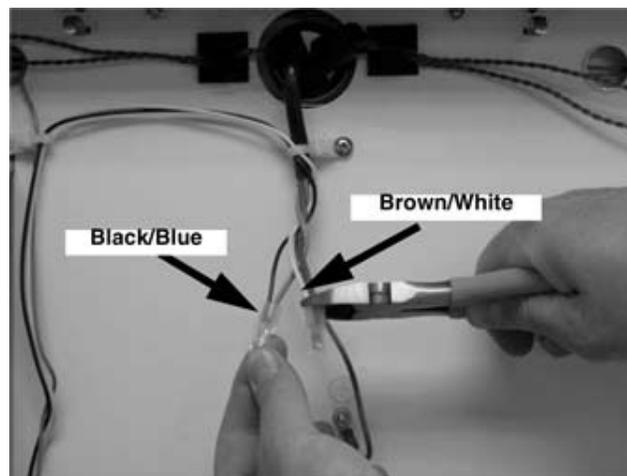

Figure 19.
- Cut brown/white connector, see Figure 19.